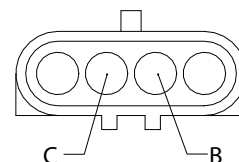

Figure 25
5. Attach multimeter leads to pins “B” and “C” of limit switch connector (see Figure 25). This contact is normally open and closes when pressed.